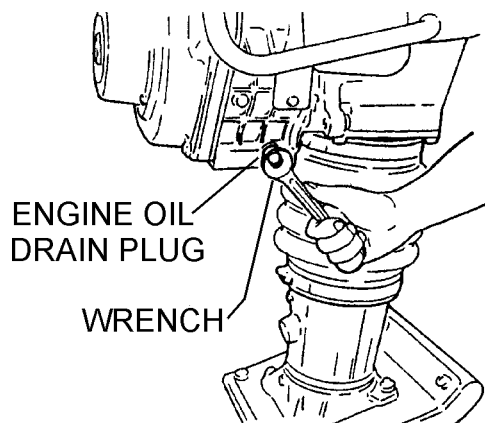

Figure 14. Draining Engine Oil
2. Using a wrench remove the engine oil drain plug (Figure 14) and let oil drain into a suitable container. Always drain engine oil while it is warm.